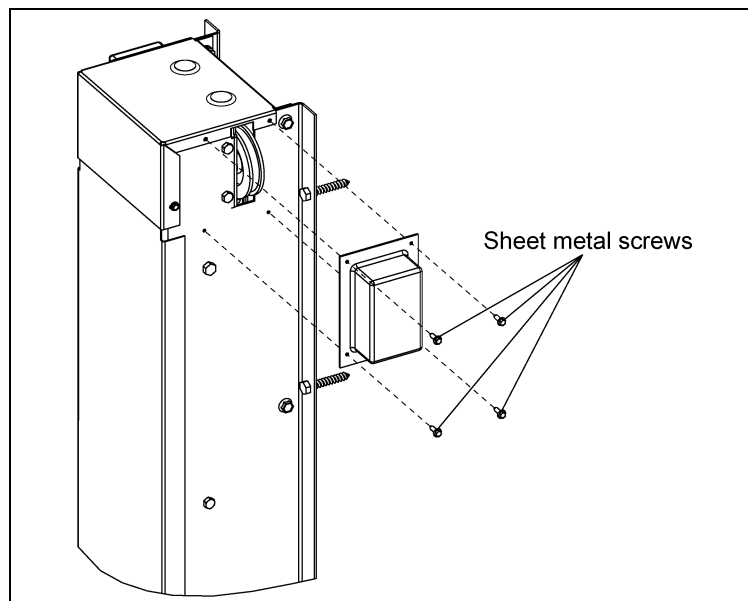

Figure 5B
Step 4: Remove existing sheet metal screw. (See Figure 5B for pulley cover fastening.)